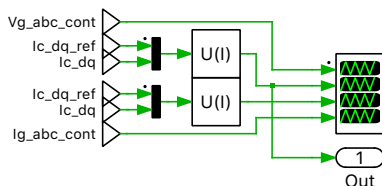

Figure 6: Top level schematic of simulated model containing an output for accessing the data in Python
- 3 If any outputs exist on the top level schematic of the simulated model, the simulation command returns a struct consisting of two fields, “Time” and “Values”. “Time” is a vector that contains the simulation time values, in seconds, for each simulation step. The rows of the array “Values” consist of the signal value magnitudes seen at the outputs. The order of the signals is determined by the port numbers. As you can see if Fig. 6, the Signal Output block in the PLECS model contains the signals for the current control reference in the d-axis, and the measured d-axis current. We need to define variables where we will store the simulation results for both the signals and time information. We can use the following code for that: